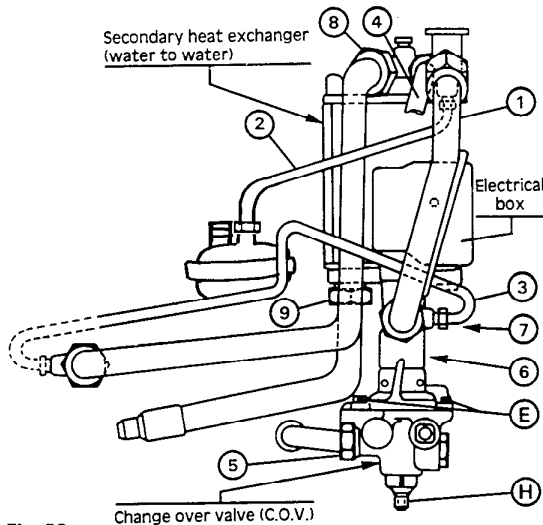

Fig. 58
- c) Close heating flow and return valves (B & C), see section 8.11 (fig. 58 A).
- c) Isolate mains water supply - drain from valve beneath the change over valve, see section 8.11 fig. 58 (H).